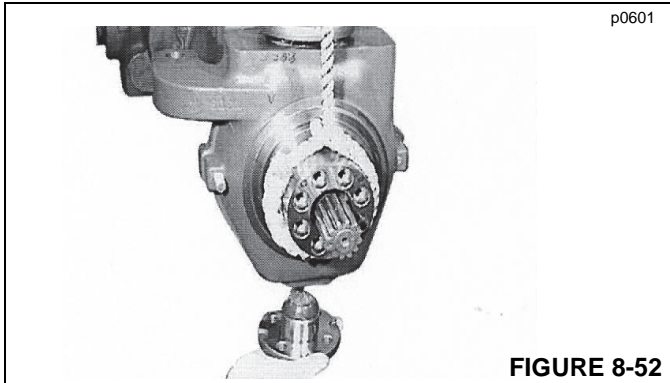

FIGURE 8-52
15. Secure the swivel housing with a rope or sling attached to a hoist before removing the king pins (Figure 8-52). Remove the king pins.